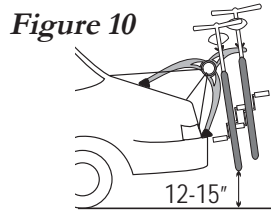

Figure 10
- Check clearance. It is the responsibility of the user to ensure the necessary clearance (dependent on vehicle, load, driving territory, etc.) is given from load to ground. Generally, 12-15" is adequate (*Fig. 10*). If necessary, rotate arms up until at least 12-15" of clearance is achieved.